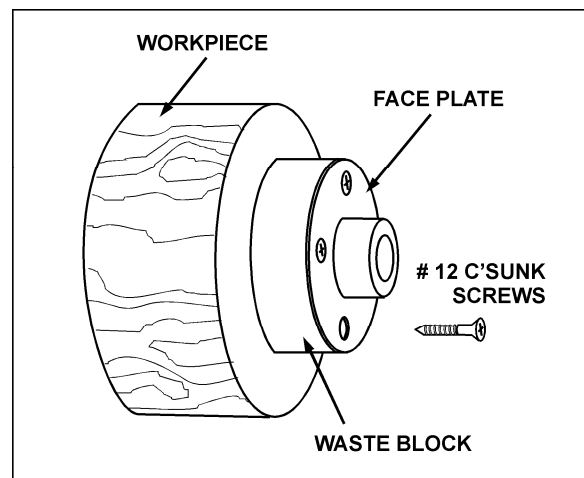

Figure 9-9
5. Make a block the same diameter as the face plate, Figure 9-9. Both waste block and workpiece should have flat surfaces for gluing.